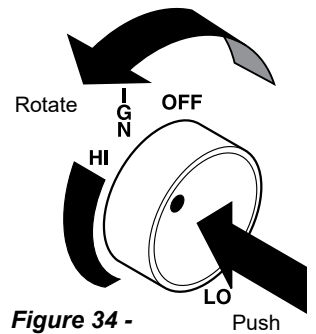

Figure 34 - HIGH Position
10. Push in control knob and turn counterclockwise to the HIGH setting. At this location the control knob will pop out when positioned correctly. The knob can now be positioned at any position between HIGH and LOW. Figures 34 and 35